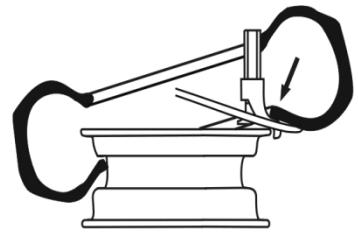

Fig. 20
- Repeat the operation for the other bead (fig.20).